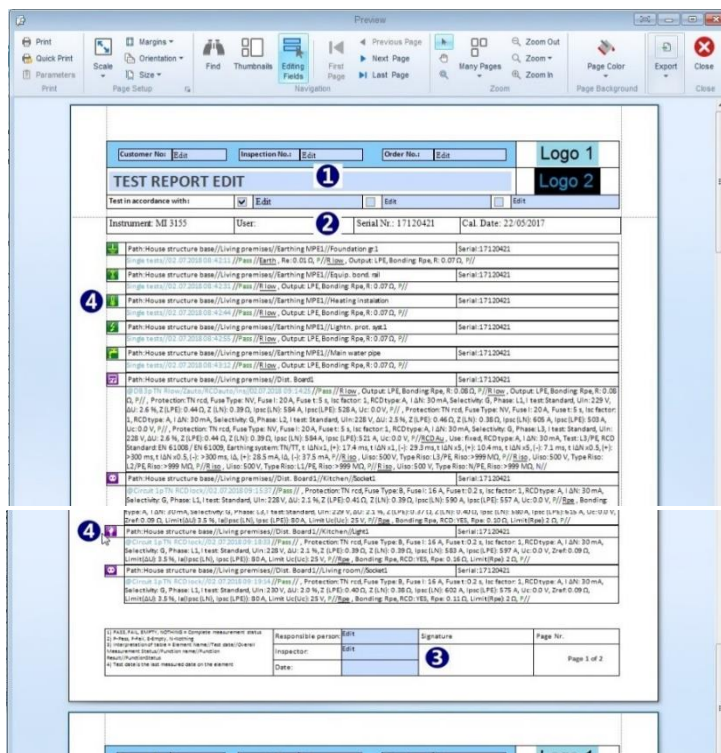

Figure 9.5: Basic report document format preview
- Clicking on **Basic report** within the Tools group of the Home menu tab opens the Test project's Basic report document in Preview manager window, **Figure 9.5**.
- **Header** of Test project Basic report document (❶) appear on the top of each page:
- Complete **Instrument data** (❷) appears at the beginning of the Results list on the first page only. The instrument data parameters are set automatically when Data structure file is downloaded.
- **Footer** of the Test project Basic report document (❸) appears at the bottom of each page and contains:
- **Results** (❹) are presented in two table rows: